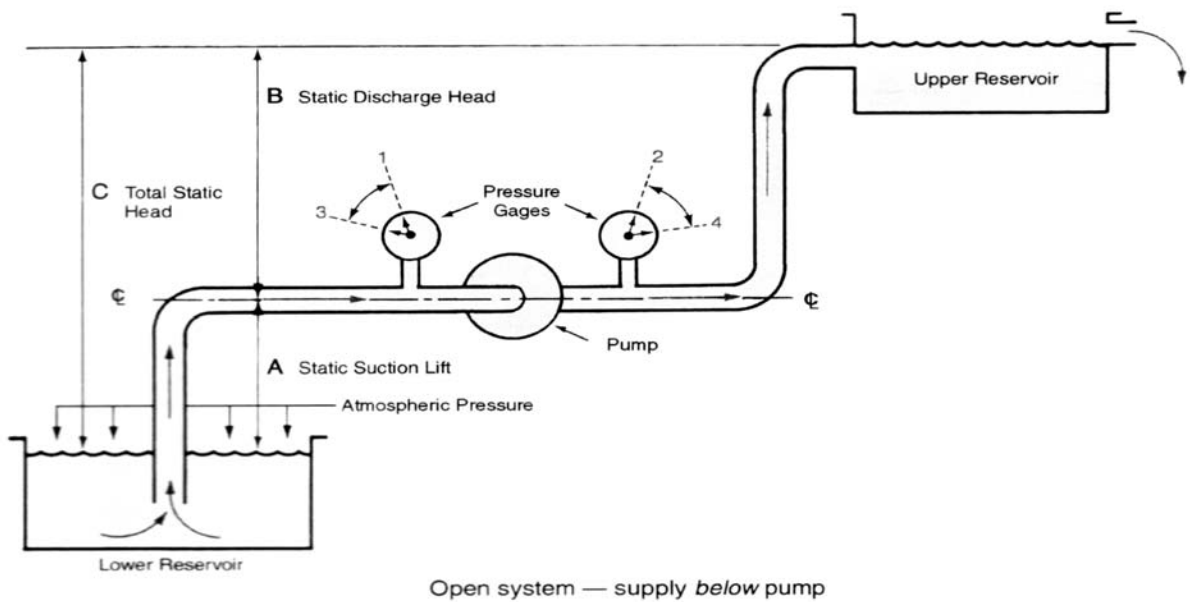

Fig. 1
3. See Fig. 1. The static suction lift is 8 feet and the static discharge head is 12 feet. What is the total static head?